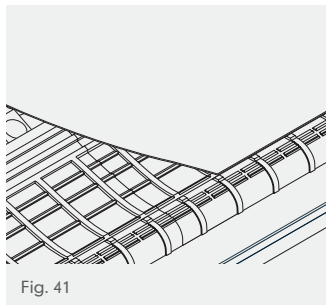

Fig. 41
- 1 Lay the underlay over the support tray stopped approx. 25mm from the top of the curved front edge of the felt support tray. (Fig 41). The underlay should not be left exposed to UV light.
- 1 Install the roofing underlay over the rafters, ensuring sufficient drape into gutter (Figs. 41 and 42).